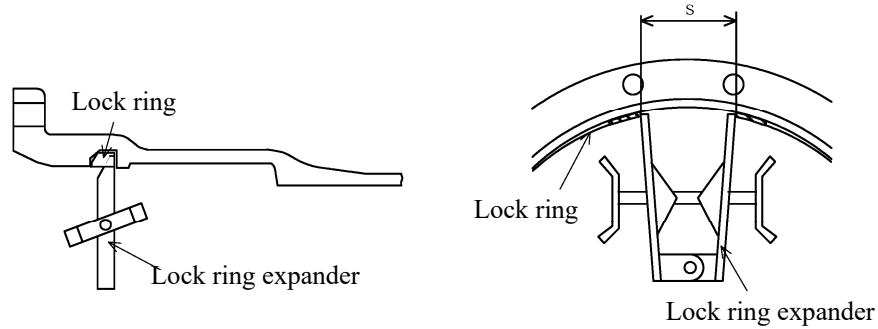

Figure 6 Installation of lock ring expander
- (2) As illustrated in Figure 6, use a lock ring expander to expand the ring so that the split portion of the lock ring will reach the dimension “s” (value as a guide) shown in Table 5.